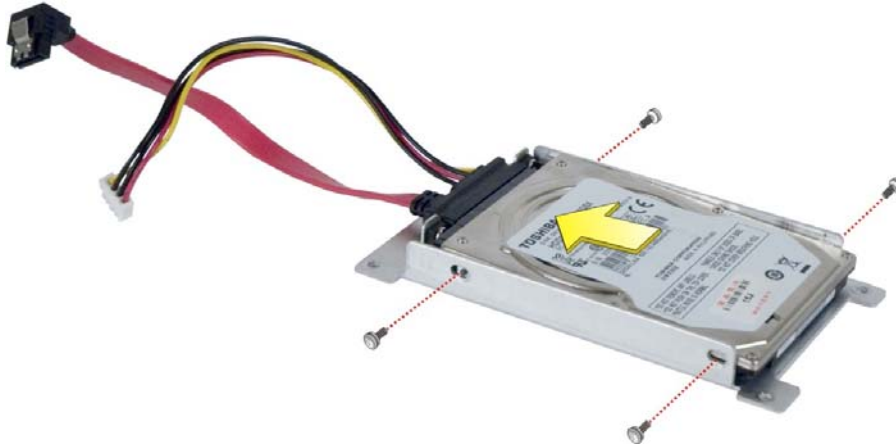

Figure 3-5: HDD Retention Screws
Step 4: Secure the hard drive to the bracket. Secure the hard drive to the bracket with four retention screws (**Figure 3-5**).